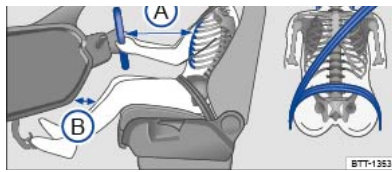

Fig. 30 Illustration: correct distance between the driver and the steering wheel, correct seat belt routing and correct head restraint adjustment.
- Adjust the head restraint so that its upper edge is at the same height as the top of the head, but not lower than eye level. Position the back of your head as close to the head restraint as possible ⇒ *Fig. 30*.
- Adjust the steering wheel so that the distance between the steering wheel and your breastbone is at least 25 cm ⇒ *Fig. 30 @*, and the circumference of the steering wheel can be held at the sides with both hands and your arms slightly bent ⇒ *Steering wheel*.
- Adjust the driver seat by moving it forwards or backwards so that you are able to press the pedals to the floor with your knees still slightly bent and so that the distance from the dash panel to your knees is at least 10 cm ⇒ *Fig. 30 @*.